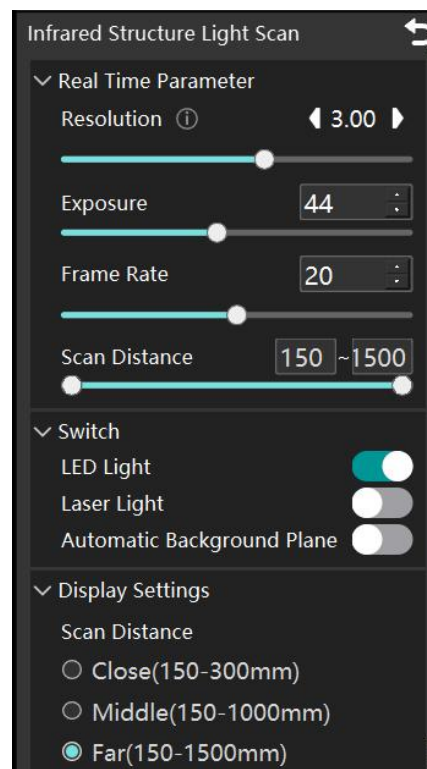

Figure 7-18 Parameters of Far Distance Scanning
1. Before scanning, click Settings and select "Far (150mm-1500mm)" in Scan Distance. The default resolution for far distance scanning is set to 3.0, which is shown in Figure 7-18. This value can be modified as needed based on specific application requirements.